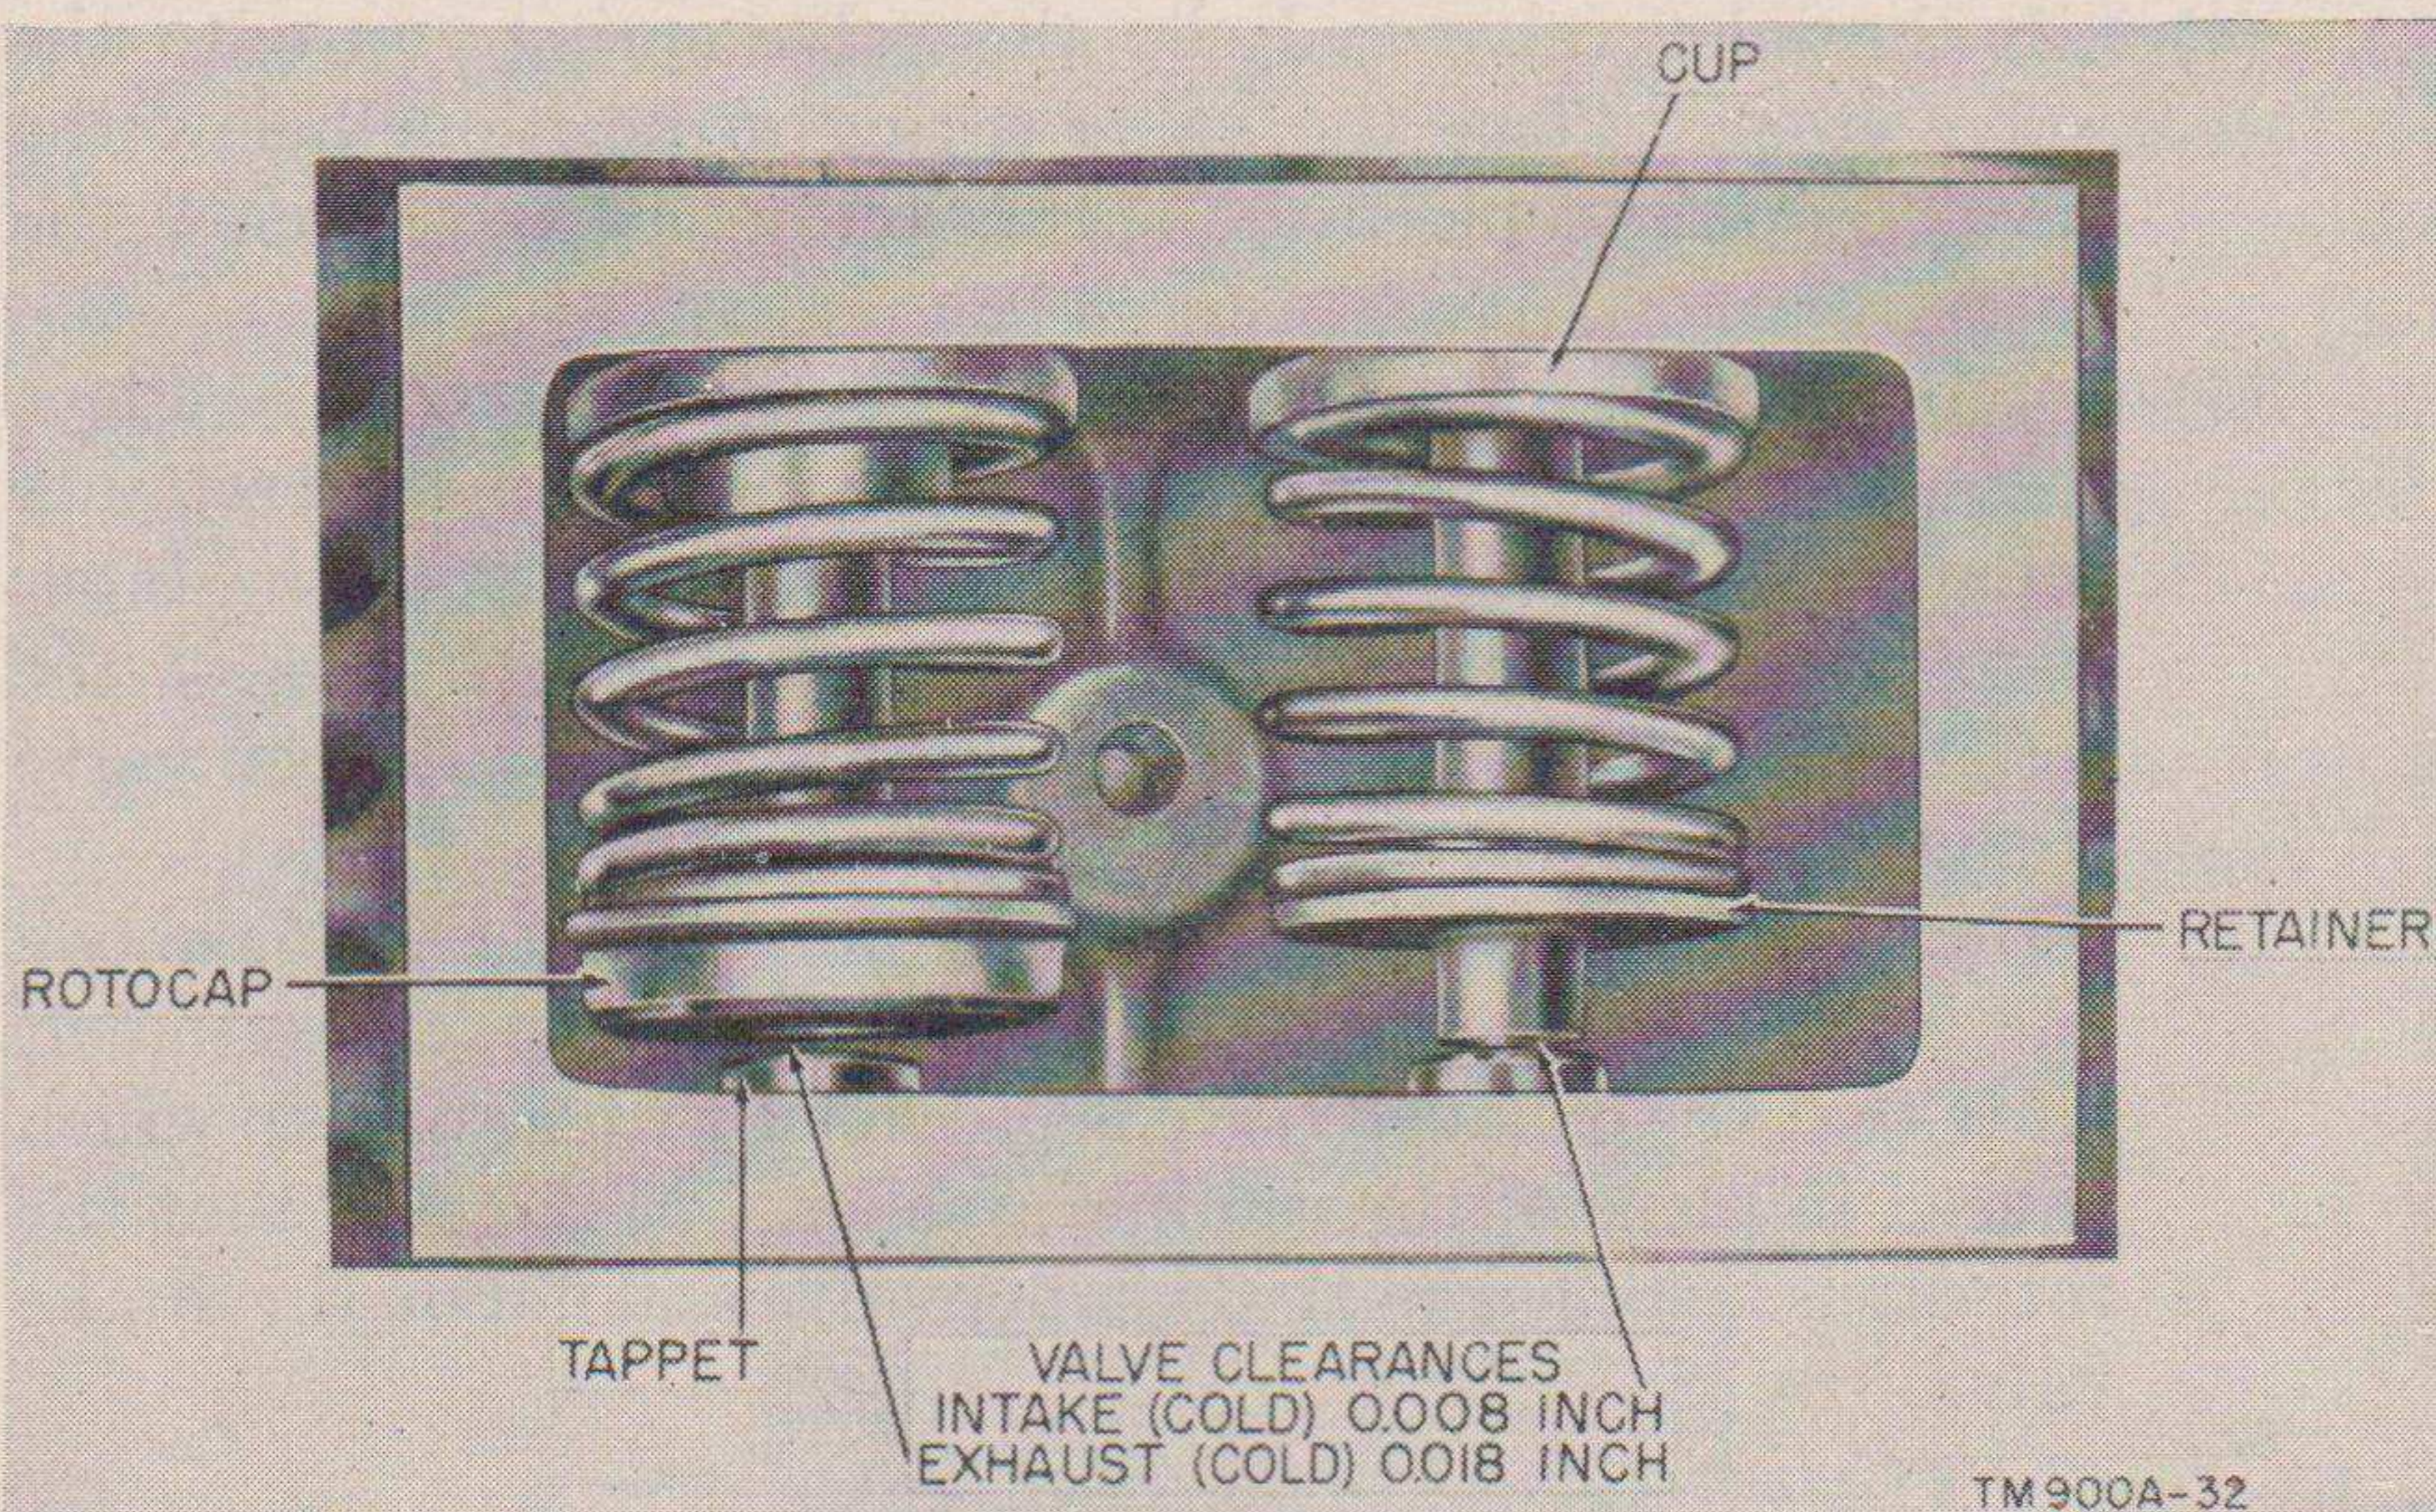

Figure 32. Valve springs and tappet clearances.
h. Installing Valves and Valve Springs (figs. 32 and 33).
- (1) Set the crankcase and cylinder assembly in an upright position and place the intake and exhaust valves in their respective guides and seats.
- (2) Rotate the crankshaft until one of the valve tappets is at its lowest point. Press down on the associated valve and measure the clearance between the stem of the valve and the valve tappet. The clearance for the exhaust valve should be between 0.017 and 0.019 inch. The clearance for the inlet valve should be between 0.007 and 0.009 inch.
- (3) If the clearance between the valve stem and valve tappet is too close, grind the end of the valve stem to obtain the proper clearance. If the clearance is too great, replace the valve with one that provides less clearance. It is of the utmost importance that the valve being tested be pressed firmly into its seat and that the valve tappet be at its lowest point when the clearance measurement is made.